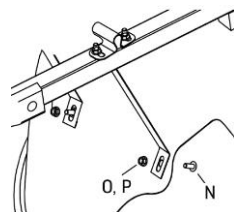

Fig. 8
16. Use 8 x 20 mm bolts (N) and lock washers and nuts to attach the tops of the tray braces to the tray (Fig. 8).